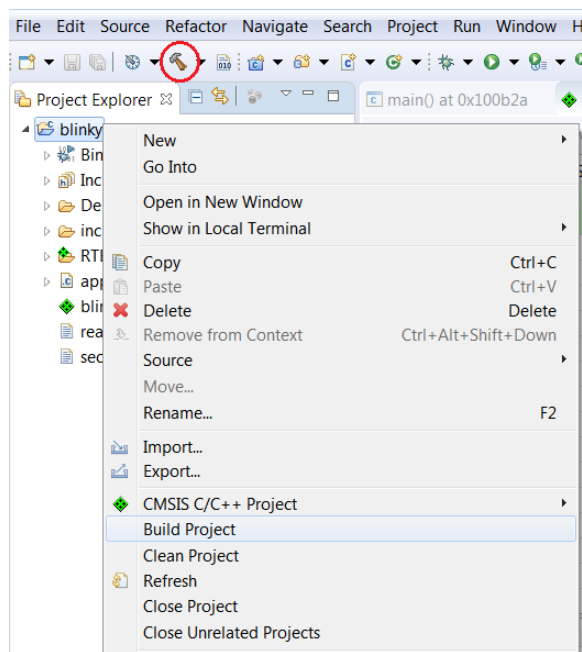

Figure 8. Starting to Build a Project in the ON Semiconductor IDE
1. Right click on the folder for *blinky* and click **Build Project**. Alternatively, you can select the project and click the hammer icon shown in Figure 8.